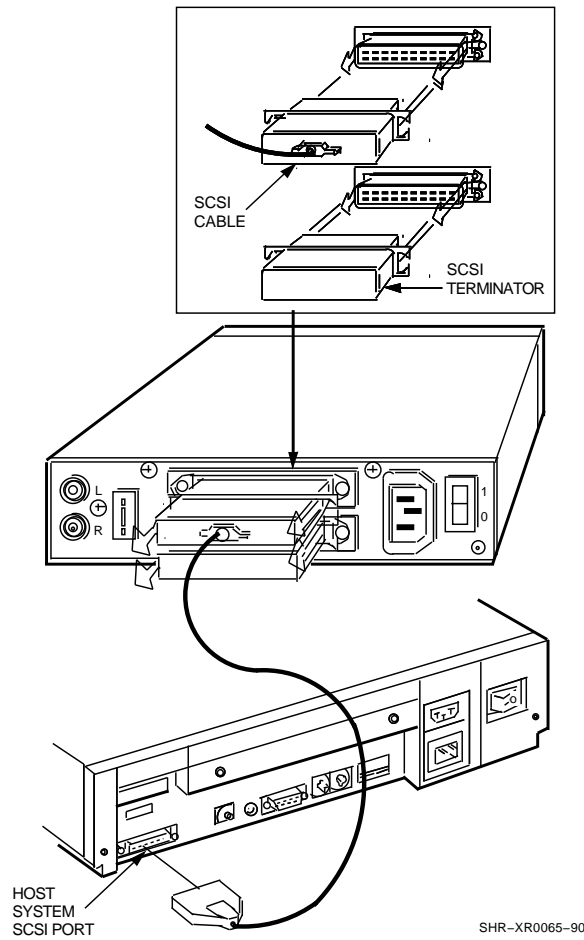

Figure 2-4 Connecting a SCSI Signal Cable — Drive to System
1. See Figure 2-4.
Figure 2-4 shows how to connect the tabletop drive to a host system.